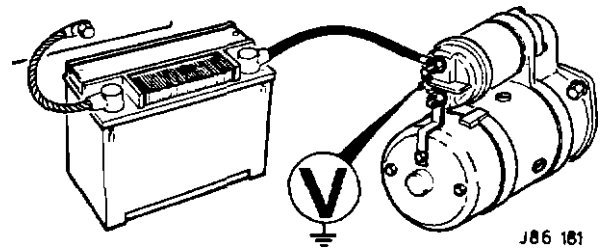

Fig. 1
**Note:** If the solenoid operates intermittently during the test or the engine is cranked at a low or irregular speed, there is insufficient voltage at the solenoid operating winding terminal or the solenoid is faulty (Fig. 1).